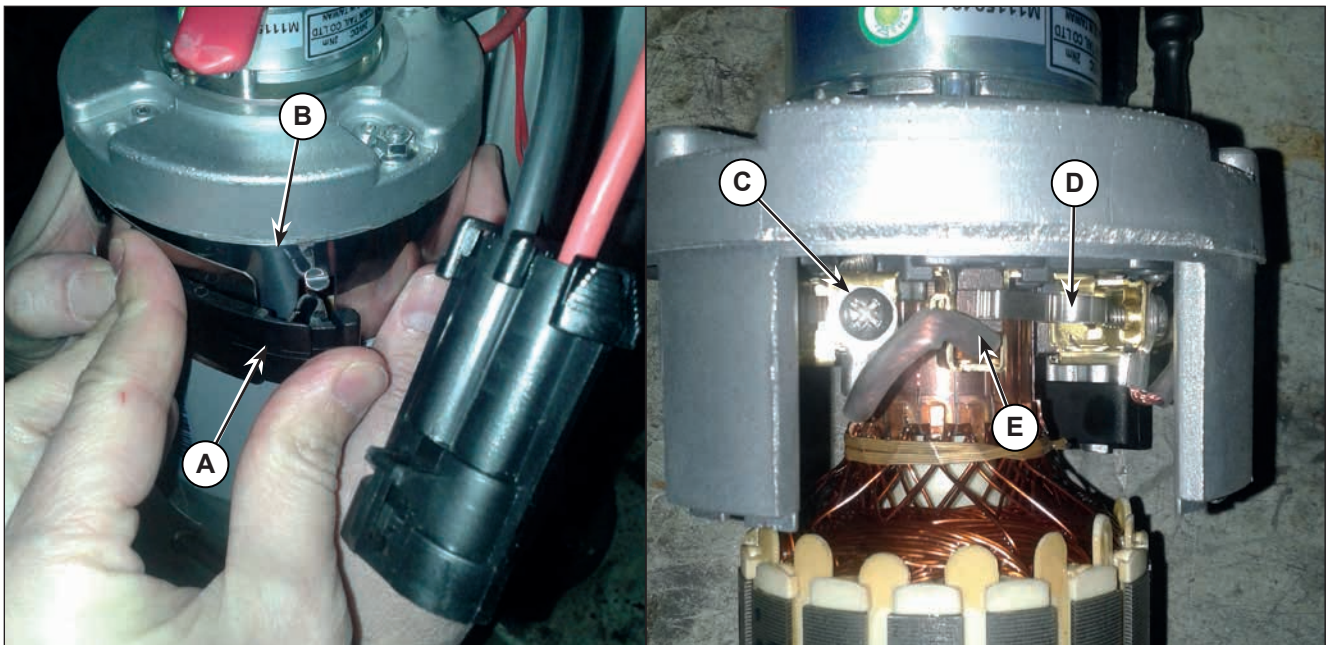

Figure 8:
3. Remove the clamp (A, Figure 8) by disengaging the tab (B).
4. Remove the screw (C) of the carbon brushes lead-in wires.
5. Carefully disengage the retaining spring (D) and remove the carbon brushes (E).
6. Check the carbon brushes (E) for wear. The carbon brushes are worn out when: